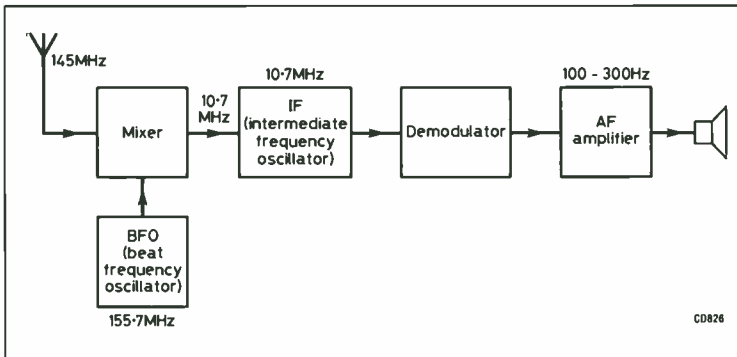
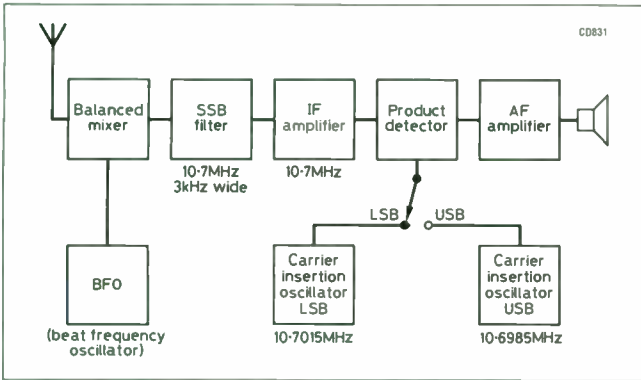
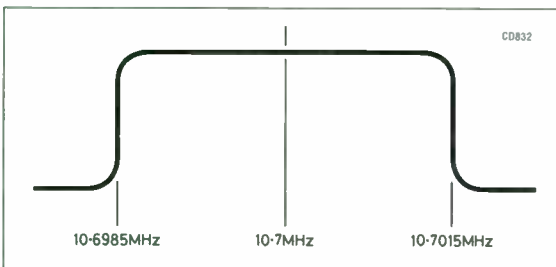

Fig 2.10. A simple superheterodyne receiver
Fig 2.15. A simple SSB receiver
Fig 2.16. The characteristic of an SSB filter
The superheterodyne solves the problem of obtaining high gain by using the principle used in the direct-conversion receiver except that the output frequency is some other radio frequency, normally (but not necessarily) of a lower value. For example, a receiver intended to receive signals with a frequency of 145MHz might use a mixer which provided output signals of 10.7MHz. It is easier to provide stable (freedom from oscillation) gain at the lower frequency than it would be if the amplification had to take place at 145MHz. A block diagram of a very basic superheterodyne receiver is shown in Fig 2.10. The frequency given to each block is the operational value when an input signal with an input frequency of 145MHz is being received. If it becomes necessary to receive a new station with a frequency of 145.2MHz the frequency of the BFO (beat frequency oscillator) would be changed to 155.2MHz. The difference between the frequency of the BFO and the incoming signal is still 10.7MHz. This means that the 'radio frequency' amplifiers can be tuned to a fixed frequency of 10.7MHz. To distinguish the new RF amplifiers from others they are referred to as 'intermediate frequency' (IF) amplifiers.
Fig 2.15 shows a simple arrangement of an SSB superheterodyne receiver but it is important to remember that the practical circuit is much more complicated. There are some similarities between this and the diagram shown in Fig 2.10, and only the additions will be described now. Between the mixer and the IF amplifier is a special filter made specifically for SSB. It is a band-pass type, centred in this case on 10.7MHz, and has a bandwidth of 3kHz and a response curve with very steep sides. Fig 2.16 gives the general shape.